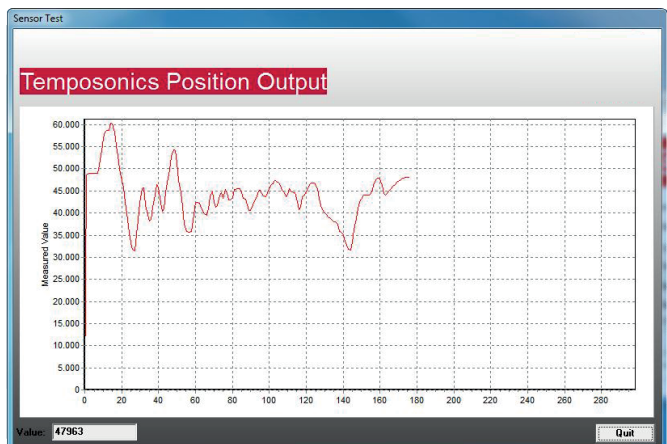

Fig. 36: Data display
- 4 Menu **Test Sensor** provides a data display (Fig. 36), which shows the absolute position of the position magnet. Compared with the sensor measuring rate, the serial data transmission between sensor and PC is relatively slow, i.e. not every measured value can be displayed. For this reason, only every 50th measurement value appears in the diagram.